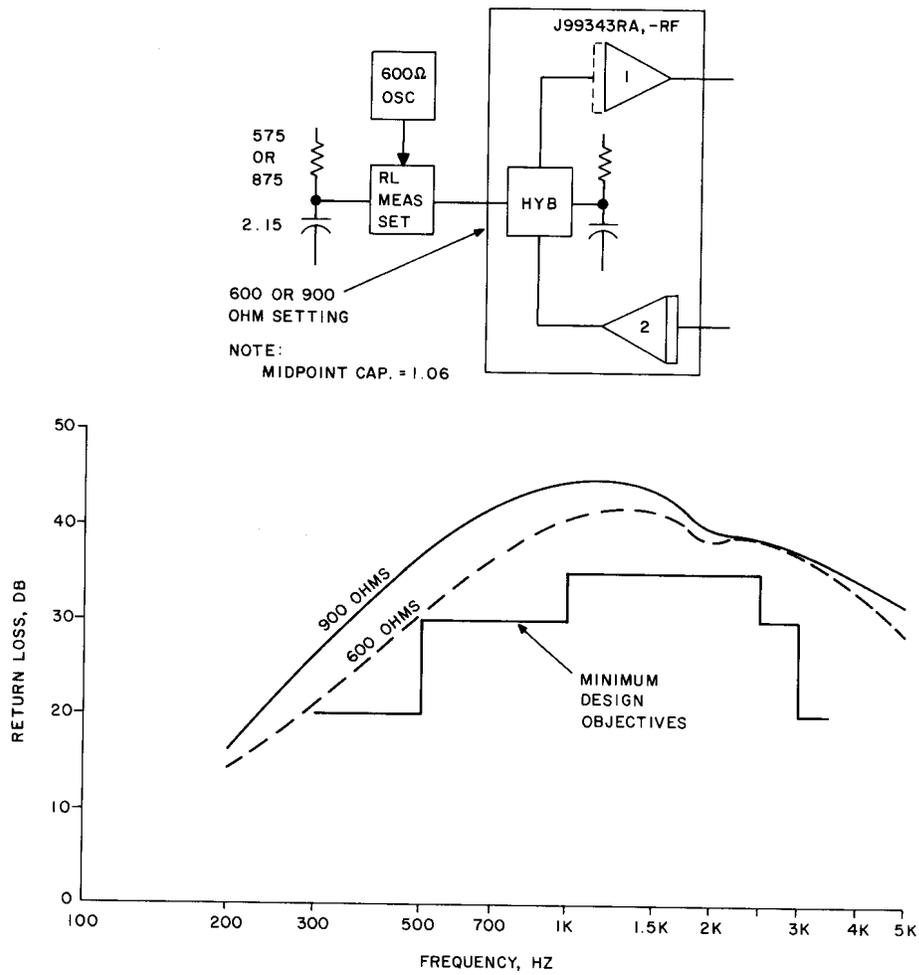

Fig. 24—2-Wire Return Loss of J99343RA, RF Repeaters @ 600 and 900 Ohms
**6.12** Figure 24 shows the 2-wire return loss of the 2-4 terminal repeaters with 600- and 900-ohm settings of the hybrid. The return loss is measured against a reference of 575 ohms + 2.15  $\mu$ F for the 600-ohm setting and 875 ohms + 2.15  $\mu$ F for the 900-ohm setting. The 25 ohms reduction of the 2-wire line side impedance of the hybrid allows for an assumed average resistance of 25 ohms for office cabling.